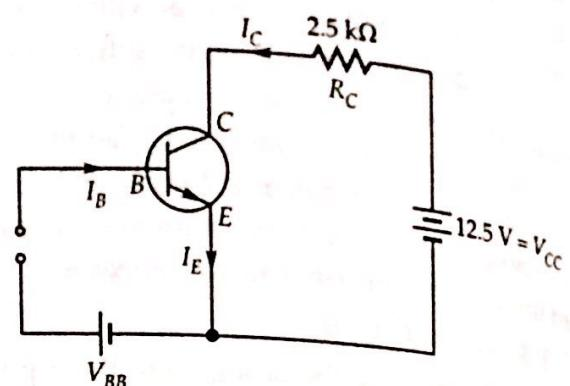

Figure 5.23
**Example 5.10** In Fig. 5.23, draw dc load line.